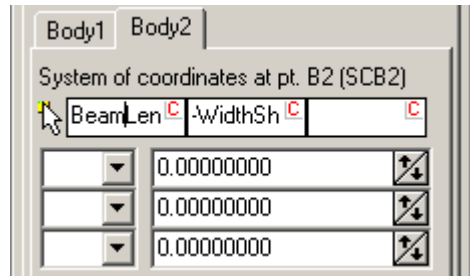

Figure 3.11
6. Select **Body2** tab. Set coordinates of element attachment points to the second body **Platform.Platform** (Fig. 3.11):